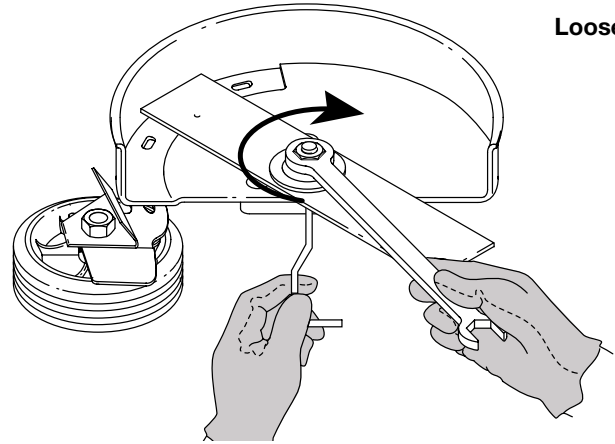

Fig. 8
2. While holding the locking rod, loosen the nut on the blade by turning it **clockwise** with a 5/8 inch wrench (Fig. 8). Remove the nut, retaining washer and blade. Keep the nut and blade retainer for installation.